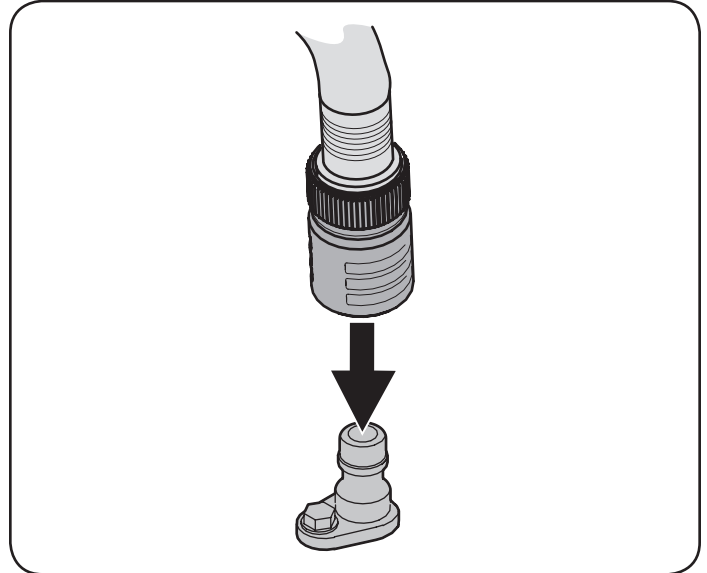

Figure 1
4. Attach the hose coupler to the water port on your decks surface. See Figure 1.